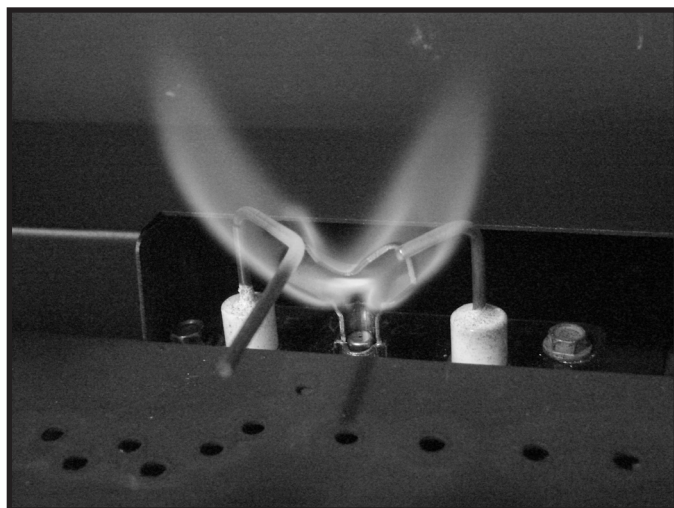

Figure 4.5 IPI Pilot Flame Patterns
- Inspect pilot flame pattern and strength. See Figure 4.5 for proper pilot flame pattern. Clean or replace orifice spud as necessary.